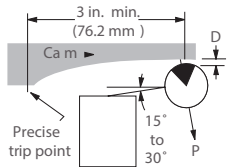

Figure 1C: Cam design for speeds from 200 to 400 fpm (60.9 to 121.9 mpm)
- The cam in Figure 1C is satisfactory for speeds up to 400 fpm (121.9 mpm) (uniform or other controlled acceleration) and the conduit fitting. Otherwise, the fitting probably will leak.